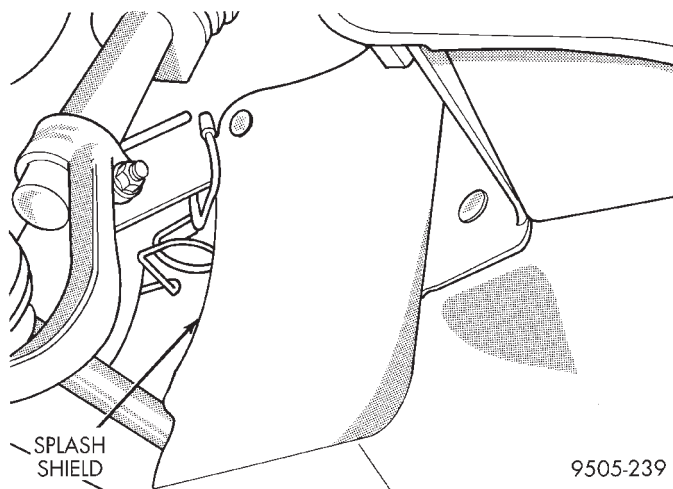

Fig. 23 Accessory Drive Splash Shield
- (1) Remove battery cable from (-) negative post on battery and isolate cable.
- (2) Siphon as much power steering fluid as possible out of the remote power steering fluid reservoir.
- (3) Raise vehicle.
- (4) Remove right front tire from vehicle.
- (5) Remove accessory drive splash shield (Fig. 23) from the right front wheel well.